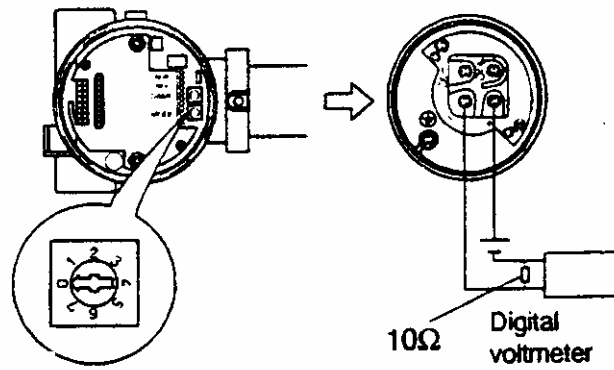

Figure 10, Location of 'MODE' switch
- b. Check that 'MODE' switch is at 'O' (Fig. 10).
Note: Figure 10 shows an example of wiring when a digital voltmeter is used (connected to CK- and CK+ on the terminal block, see Fig. 6). 0 (zero) mPa·s should then correspond with an output of 4 mA.
4. Set 'MODE' switch to zero. (Figure 10) (Reading must be 4 mA).